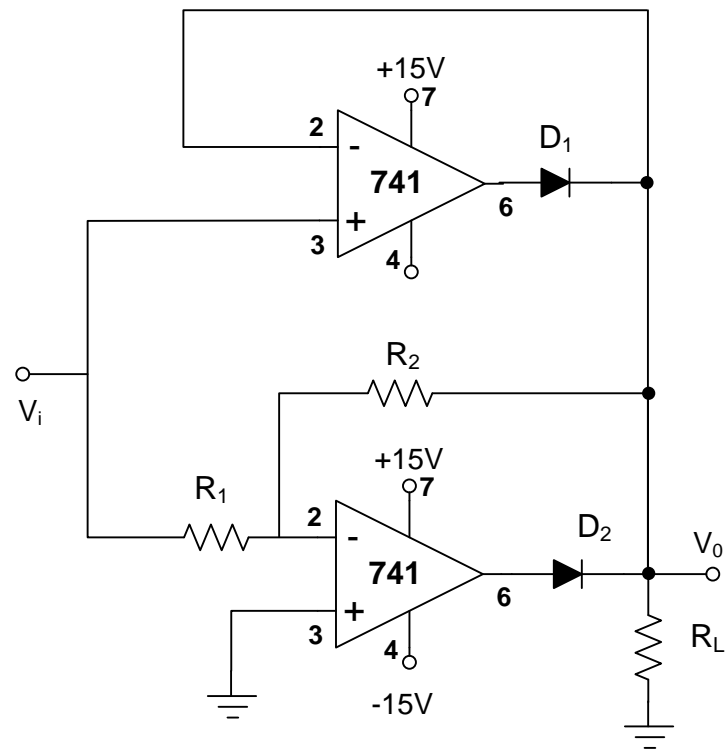

Figure 3: Precision full-wave rectifier
12. Design the precision full-wave rectifier shown in Figure 3. (Hint the circuit uses superdiode for positive half cycle and “inverting superdiode” for the negative half cycle).